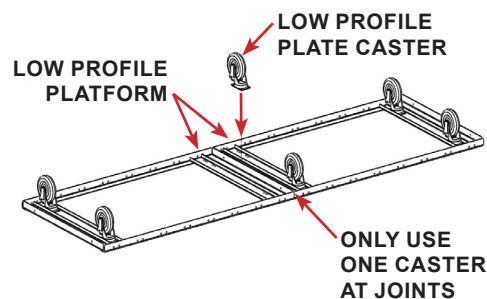

FIGURE 2.14 - Cage Bank Platform
**STEP 2:** For multiple platform assemblies (attached in series), install a plate caster at each of the four end corners. See FIGURE 2.14
**STEP 3:** Install one plate caster in the front and back where the platforms are joined together. There are two mounting plates where the platforms join, only one caster at the front and back is required at the platform joints. See FIGURE 2.14